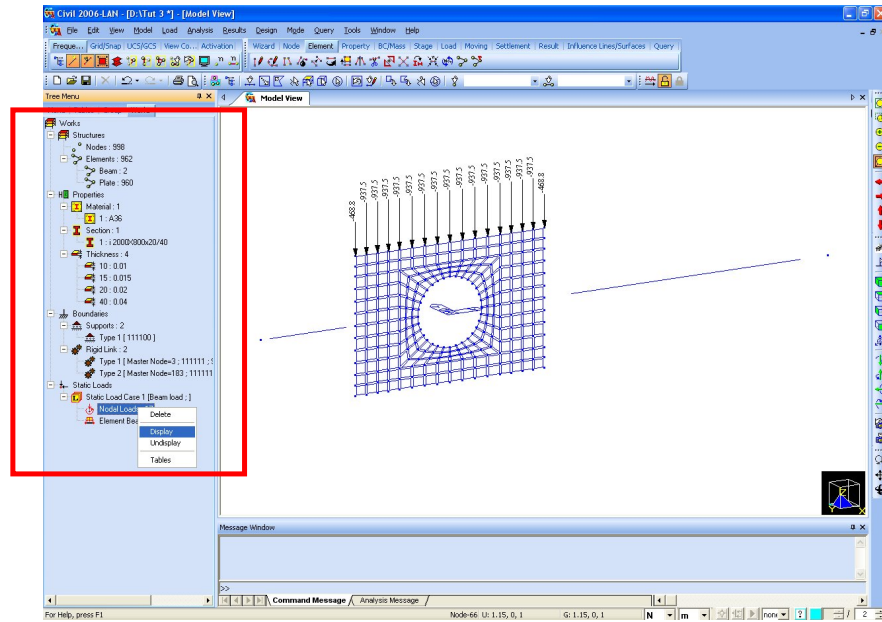

Figure 3.20 Complete Model
20. Confirm the Point Load similarly following the steps 17 to 19 (Fig. 3.20).
Fig.3.20 shows the screen display after checking the uniform distributed and point loads above using *Works Tree*.